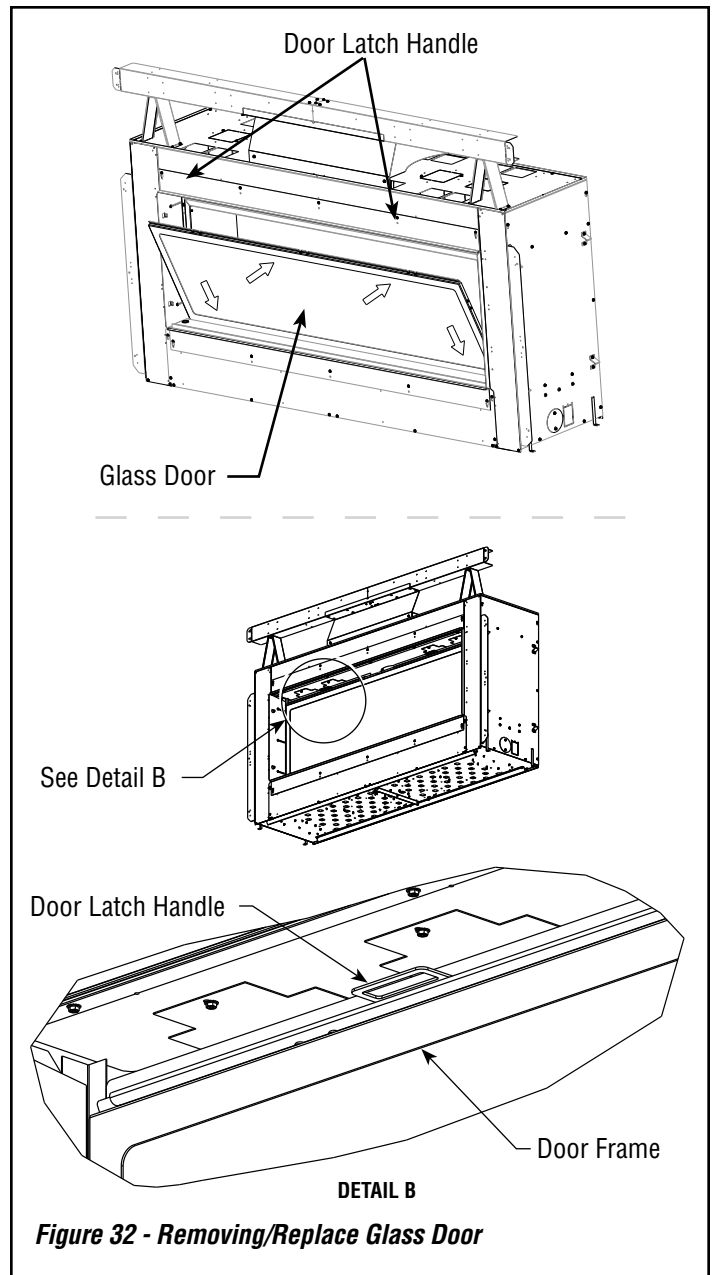

Figure 32 - Removing/Replace Glass Door
3. Tilt open glass door about 15° from the top of the firebox and lift up to release door from retaining channel (see **Figure 32**).
1. Position door frame in front of firebox opening tilting top of door about 15° toward you. Insert bottom flange of glass door into the retaining channel at the bottom of firebox (see **Figure 32**). Make sure door is center with firebox opening.